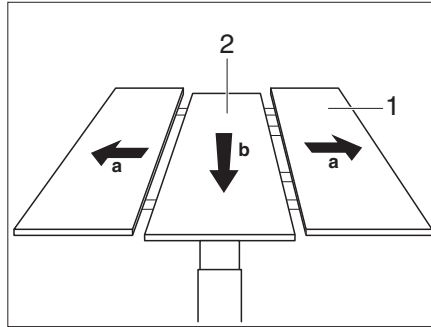

Fig. 97 Moving the middle part up
- Pull the outer parts (Fig. 97,1) of the table apart.
- Push the middle part (Fig. 97,2) of the table firmly downwards. The middle part is pushed upwards through the spring force.
- Push the middle part (Fig. 97,2) of the table firmly downwards. The middle part latches into the lower position.